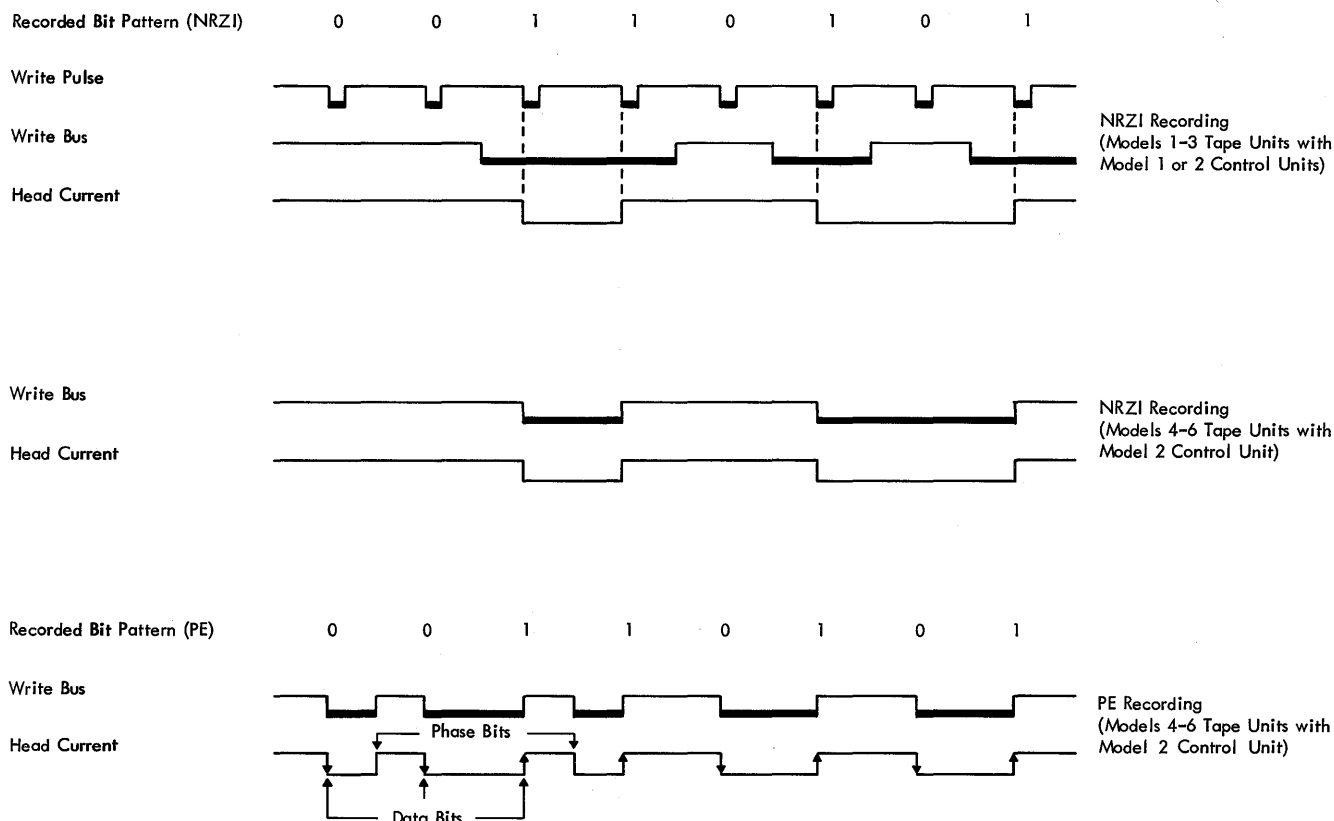

Figure 6. PE and NRZI Bit Patterns on Tape
*Models 4-6:* Essentially the same conditions as for Models 1-3; but because the write buses drive the write drivers directly, the write bus varies for both PE and NRZI recording. Zero bits in phase encoding are represented by a flux pattern different from that used in NRZI recording (Figure 6).